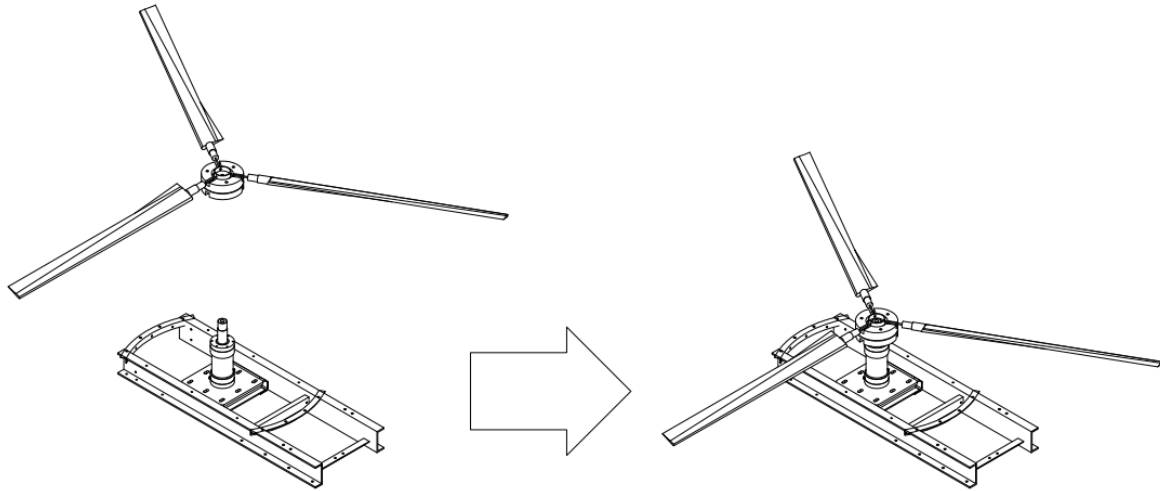

Figure 3-16 Fan Blade Assembly on Shaft Shoulder
- I. Slide the fan propeller hub to let it rest on shaft shoulder. Tighten hub securing bolts, then install the fan blades at angle setting required on project's thermal or fan datasheets. (See Figure 3-16)